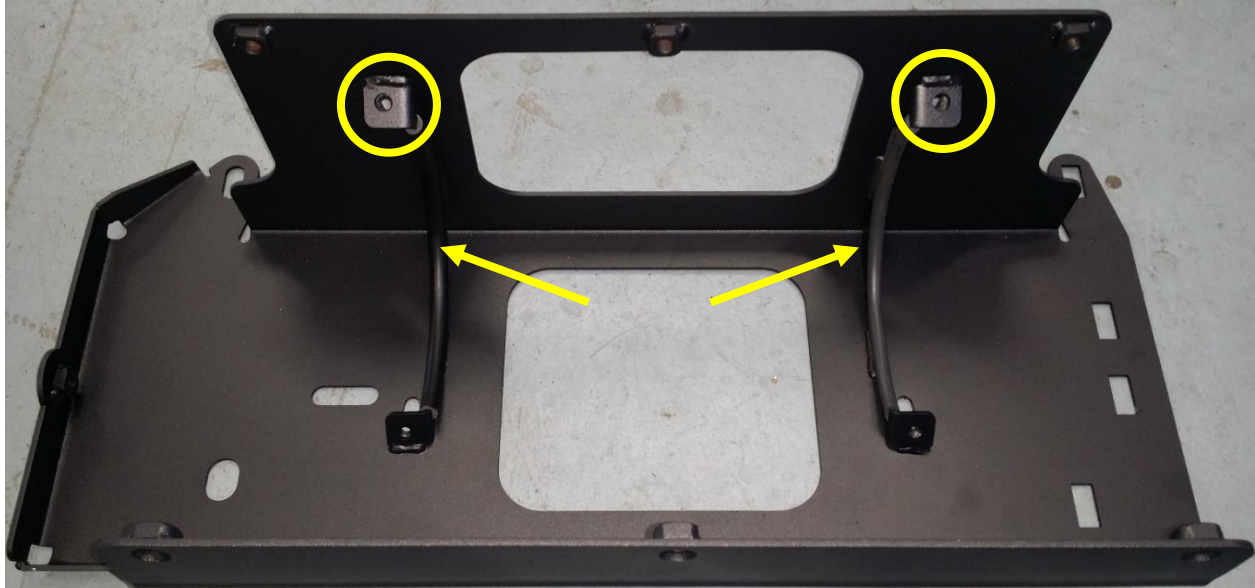

Figure 5 - Rubber Trim Attached to JK-201 (Bracket shown on bench)
9.3.1. Attach hardware #24 to JK-201 tank supports, as shown in Figure 5 below.